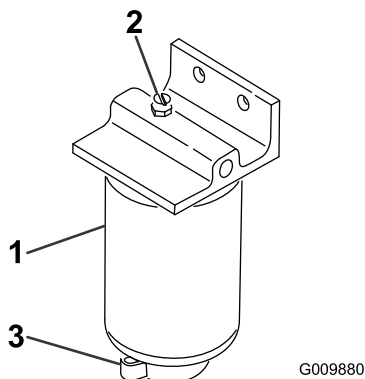

Figure 49
2. Loosen the drain valve on the bottom of the filter canister (Figure 49).
1. Clean the area where the filter canister mounts (Figure 49).